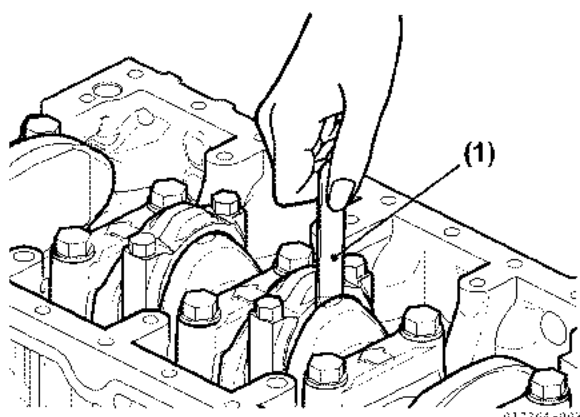

Figure 5-97
2. Check the side clearance as shown (Figure 5-97).